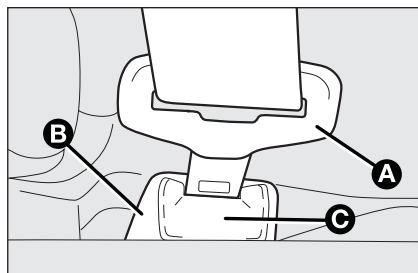

fig. 1
To fasten seat belts, take the tongue **A**-fig. 1 and insert it into the buckle **B**, until hearing the locking click.
**Never press button C-fig. 1 when travelling.**